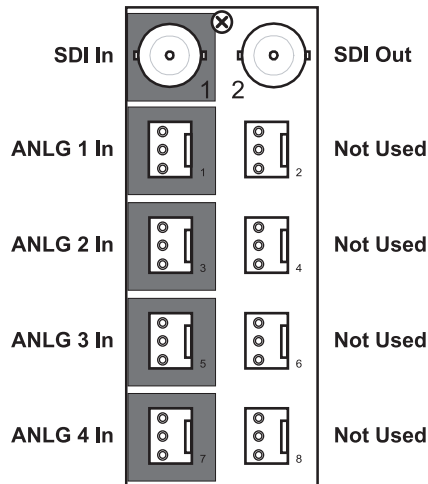

Figure 1.5 Cable Connections for the MUX-8258-4C
- **DFR-8310 series frame** — The **8310AR-034** Rear Module is required. Each rear module occupies one slot and accommodates one card. This rear module provides one SDI input, one SDI output and four analog inputs. (**Figure 1.5**)
- **DFR-8320, OG3-FR, and OGX-FR series frames** — The **8320AR-034** Full Rear Module is required. Each rear module occupies two slots and accommodates one card. This rear module provides one SDI input, one SDI output, and four analog inputs. (**Figure 1.5**)